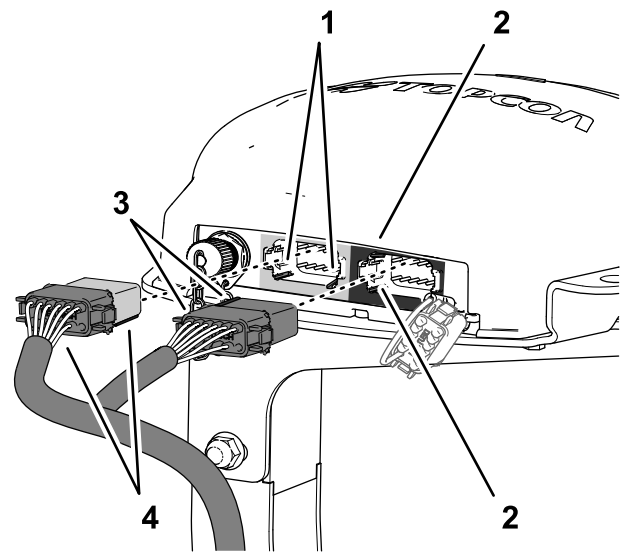

Figure 162
2. Align the 2 keys at the long face of the 12-socket connector of the data harness labeled AGI4 A KEY (GREY) with the 2 key slots in the bottom, horizontal wall of the left (gray) 12-pin connector of the navigation receiver (Figure 162).
3. Plug the AGI4 A KEY (GREY) connector of the data harness into the left (gray) 12-pin connector of the navigation receiver until the connector locks snap together securely (Figure 162).
4. Align the 2 keys at the short side of the 12-socket connector—data harness labeled AGI4 B KEY (BLACK) with the 2 key slots in the left, vertical wall of the right (black) 12-pin connector of the navigation receiver (Figure 162).
5. Plug the AGI4 B KEY (BLACK) connector of the data harness into the right (black) 12-pin connector of the navigation receiver until the connector latch snap together securely (Figure 162).